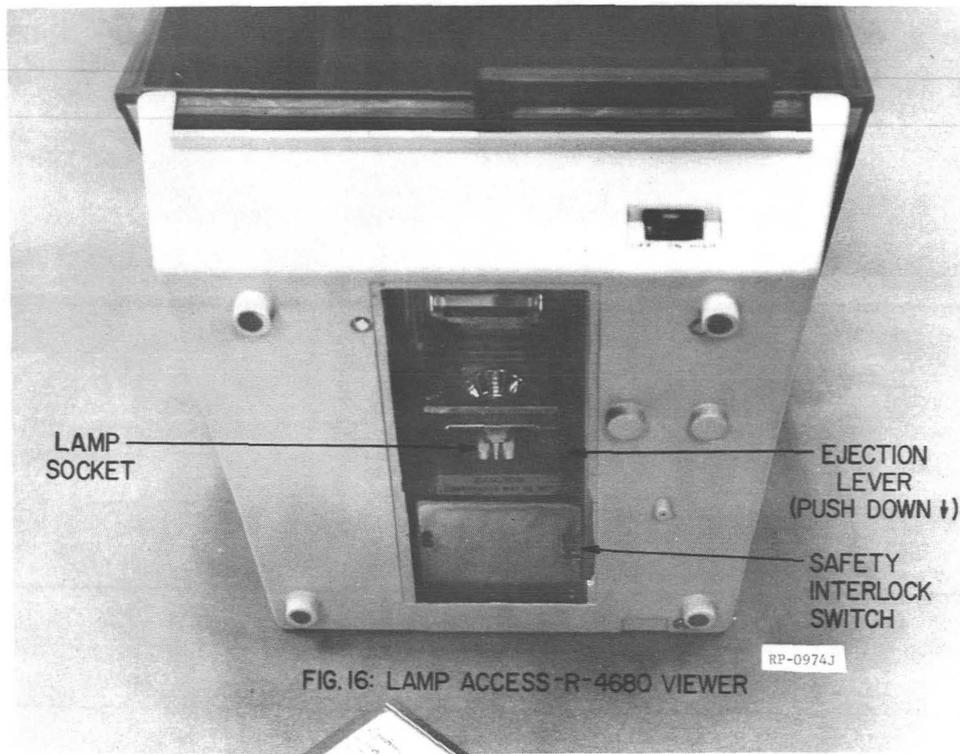

FIG. 16: LAMP ACCESS-R-4680 VIEWER
9.321 Turn the OFF-ON-HIGH switch to OFF and unplug the power cord in the back of the viewer. Place the reader on its back and open the light source access panel by turning the black door latch with a screwdriver. See FIG. 16. Note that when the light source access panel is removed, an interlock switch breaks electric contact to the unit to prevent accidental shock or injury if the power cord has inadvertently been left connected.